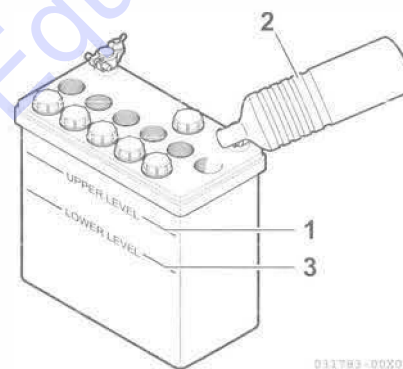

Figure 6
- When the amount of fluid nears the lower limit (3, Figure 6), fill with distilled water (2, Figure 6) so it is at the upper limit (1, Figure 6). If operation continues with insufficient battery fluid, the battery life is shortened, and the battery may overheat and explode. During the summer, check the fluid level more often than specified.